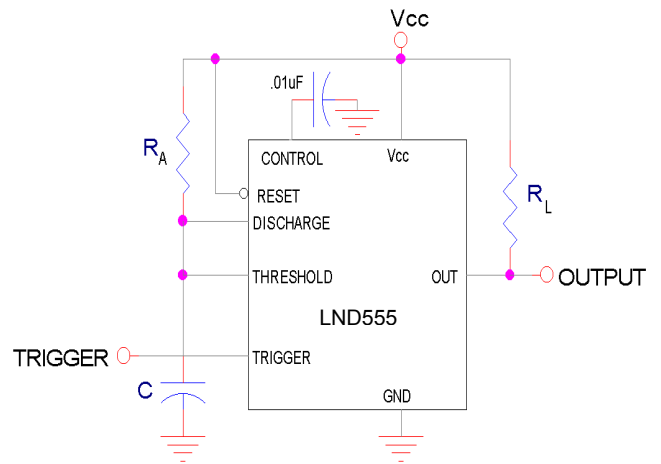

Figure 2 : Circuit for Monostable Operation
4. Values specified are for a device in a monostable circuit similar to Figure.2, with component values as follow:  $R_A=2K\Omega$  to  $100\text{ K}\Omega$ ,  $C=0.1\mu F$ .